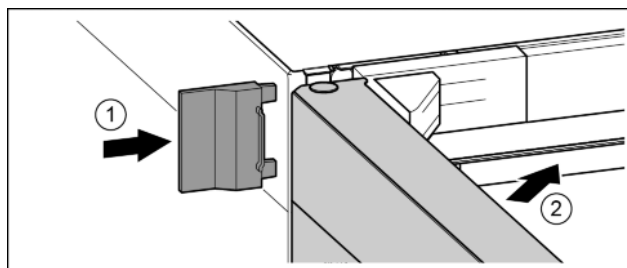

Fig. 24
- ▶ Slide on the external cover. *Fig. 24 (1)*
- ▶ Close the upper door. *Fig. 24 (2)*